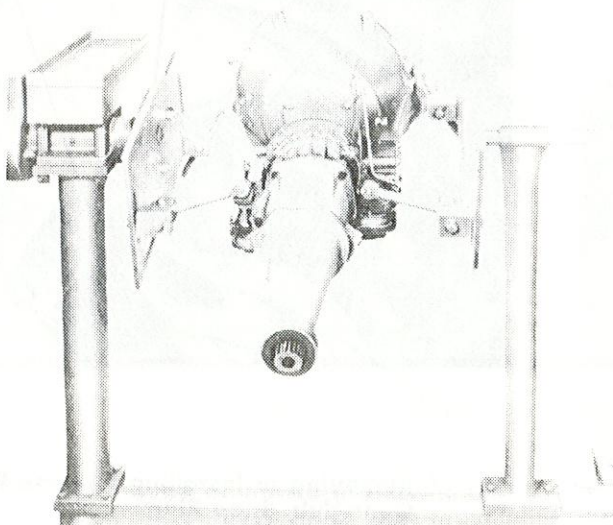

FIG. 11 Transmission Mounted in Holding Fixture
1. Remove the converter, and mount the transmission in holding fixture T64L-6001-A, (Fig. 11).